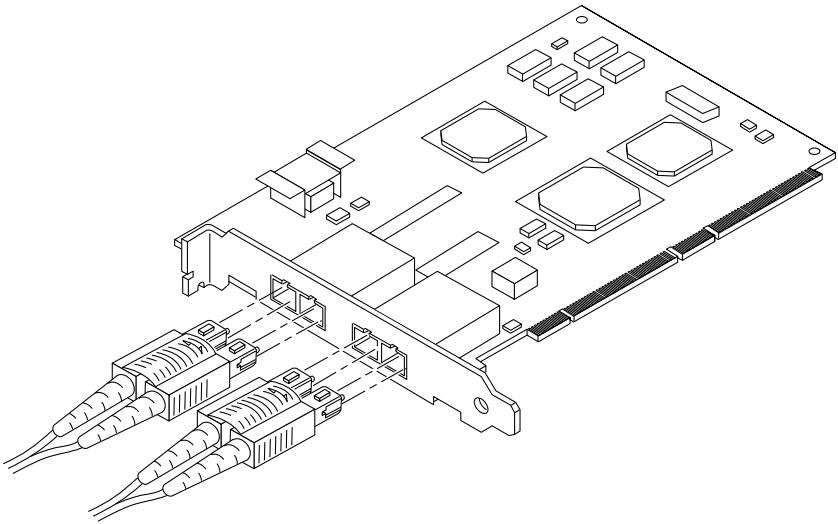

FIGURE 1-4 Connecting a Fiber Optic Cable to an OT Connector
5. Push the fiber optic cable connector into the OT connector until you hear a click (FIGURE 1-4).
Caution – Fiber optic cables have keyed connectors; they can only be inserted into OT connectors as shown in FIGURE 1-4.